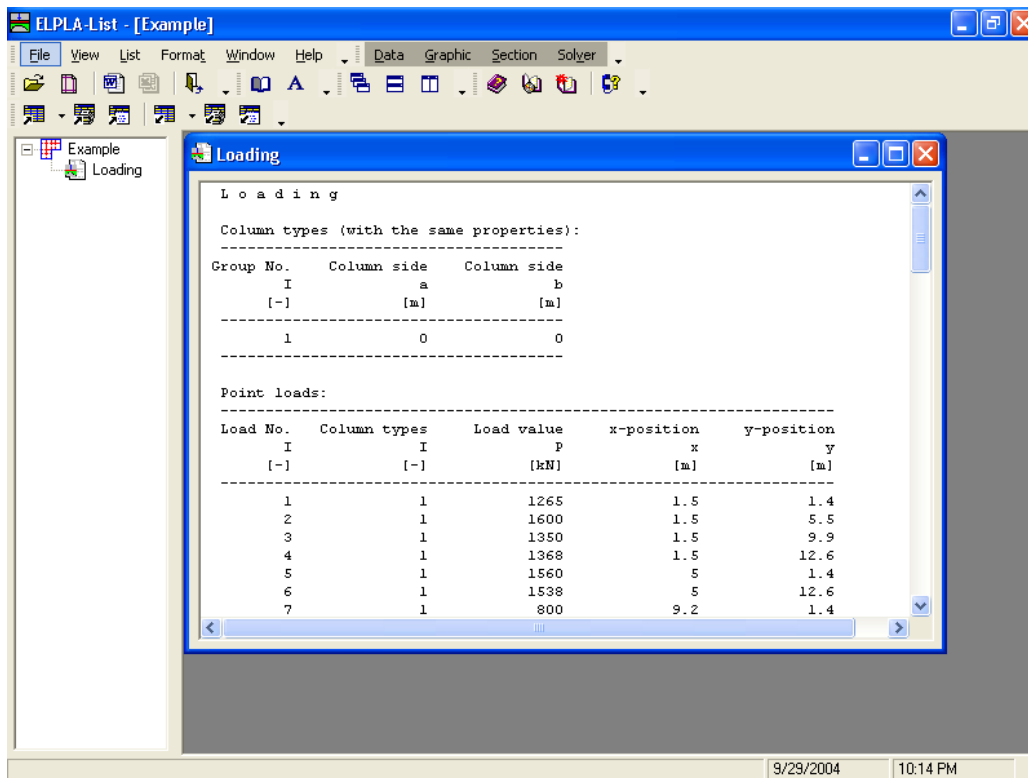

Figure 1-45 List of loading data
- Click "OK" button. The loading data are now listed on the screen (Figure 1-45)